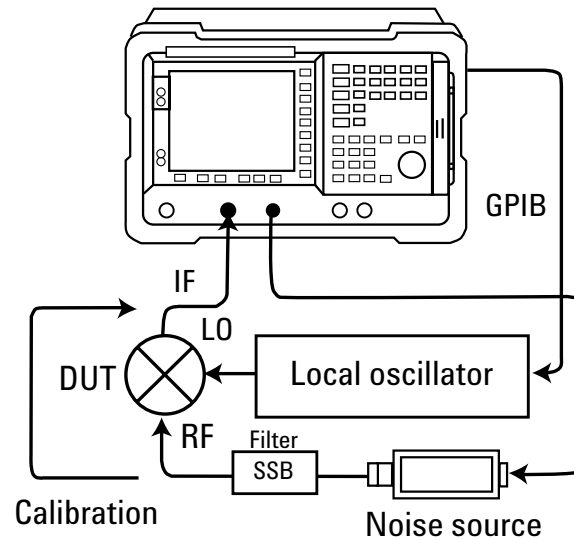

Figure 14. Variable IF and fixed LO with filtering
For this example the DUT is again assumed to be a mixer, the LO is fixed at 5 GHz, and the DUT operating frequency is from 5.8 to 6.3 GHz, the standard number of measurement points is 11, and this time the USB will be measured. The measurement setup is shown in Figure 14.
19. Connect the equipment as shown in Figure 14 (without the DUT).